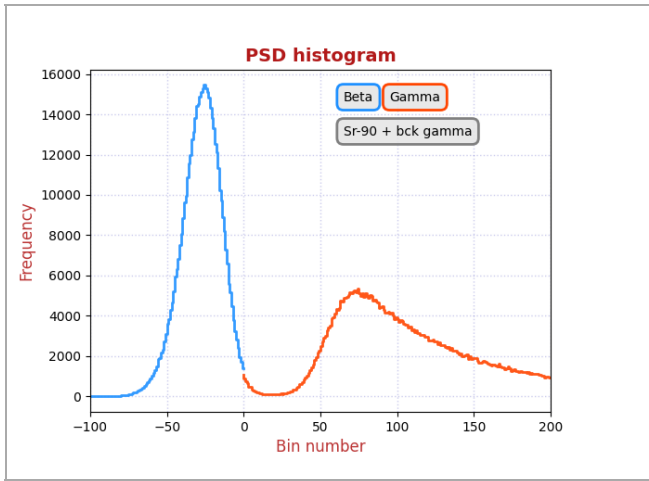

Fig. 13: PSD histogram for the combination of a weak Sr-90 source with a count rate equal to background  $\gamma$ 's.
**PSD histogram** An example  $\beta/\gamma$  PSD histogram is shown in figure 13. Even with the limited speed of the input amplifier in an SiPM-3000, the beta/gamma separation is nearly perfect.